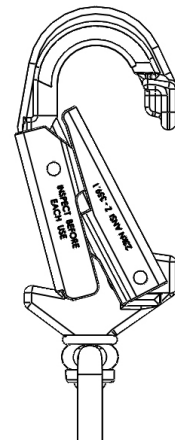

Figure 5n
- e. Use the other hand to depress the lock and open the gate. See Figure 5n.